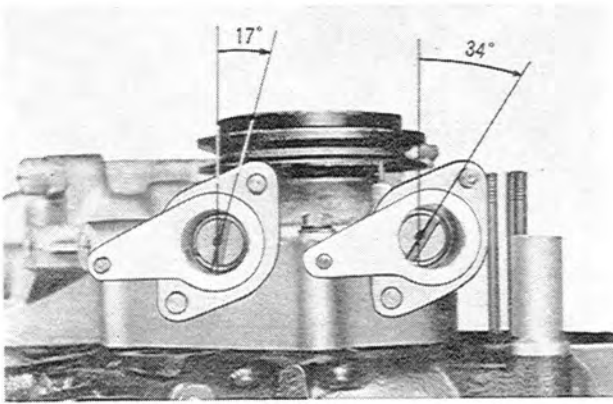

Fig. 1-102 Position of distributor socket
3. Install the leading side distributor socket through the gasket to the front housing so that the groove on the upper side of the drive shaft points about 17° to the right against the longitudinal axis of the engine, as shown in Fig. 1-102.